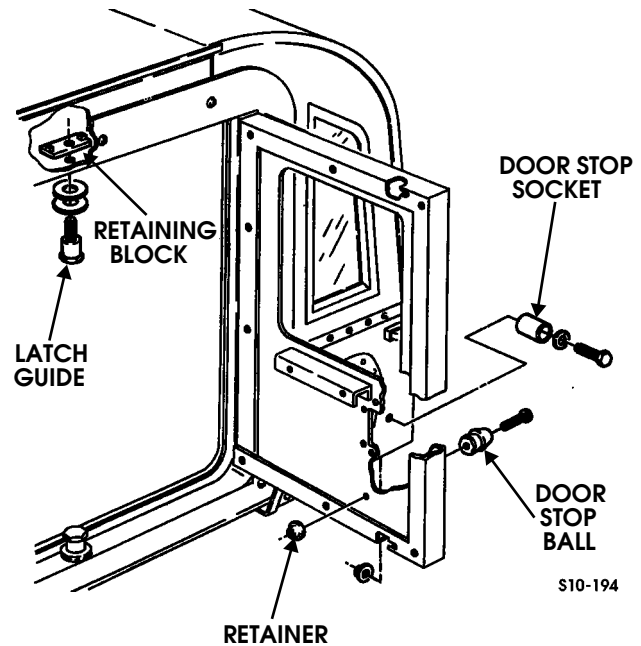

Figure 10-157: Door Stop and Latch Guide Replacement
4. Remove bolt, door stop ball, and retainer from door (Figure 10-157).
1. Secure door stop socket to right rear wheelhouse with washer, bolt, and retainer (Figure 10-157).
Remove latch guide, two washers, and retaining block from door frame (Figure 10-157).
Secure latch guide to door frame with two washers and retaining block (Figure 10-157).